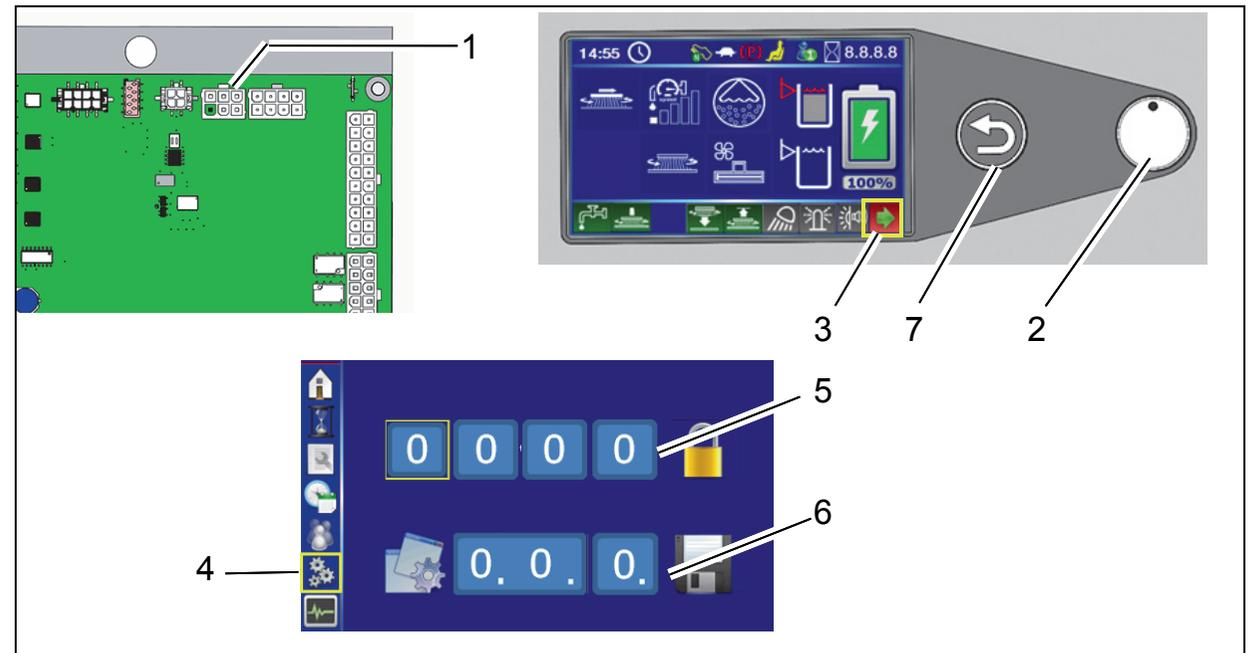

Fig. 3
2. Select the arrow softkey (Fig. 3/3) on the control panel using the turn-push knob (DDS) (Fig. 3/2) and press to access the sub-menu.
3. Select the configuration menu in the sub-menu (Fig. 3/4).
4. Enter the 4-digit code in the configuration menu at the top (Fig. 3/5):
5. Select the value of the option under (Fig. 3/6) in the configuration menu and save by pressing the DDS. After confirmation of the final digit, *OK?* appears. Press the DDS again to save the value. The saved value is now displayed in green. If the value is not to be saved, exit the menu using the return button (Fig. 3/7).